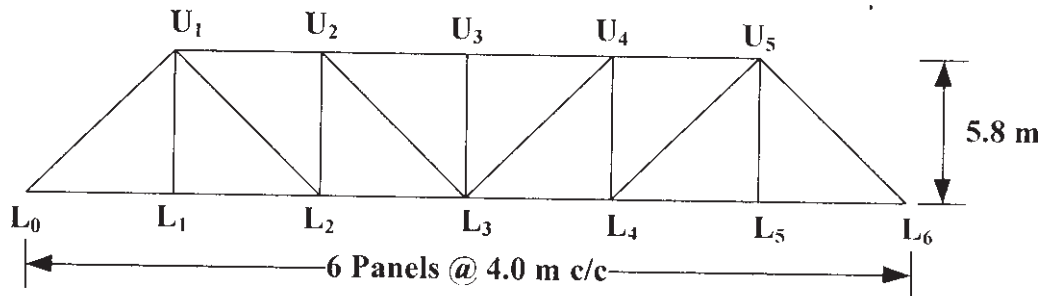

Fig. 7
- Q7)** Design the members $U_1 - U_2$, $U_2 - L_2$ and $U_1 - L_1$ for the railway steel truss bridge shown in Fig. 7. Also draw a neat sketch of the connection of members at U_1 . **[25]**
Q8) For the railway bridge shown in Fig. 7, design the top and bottom lateral bracing with the given data.